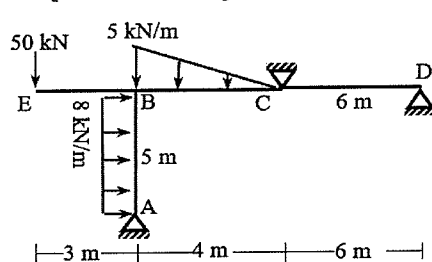

Figure 8
8. Analyze the frame in **Figure 8** using Moment Distribution Method to draw the bending moment diagram [$EI = \text{Constant}$]. [15]